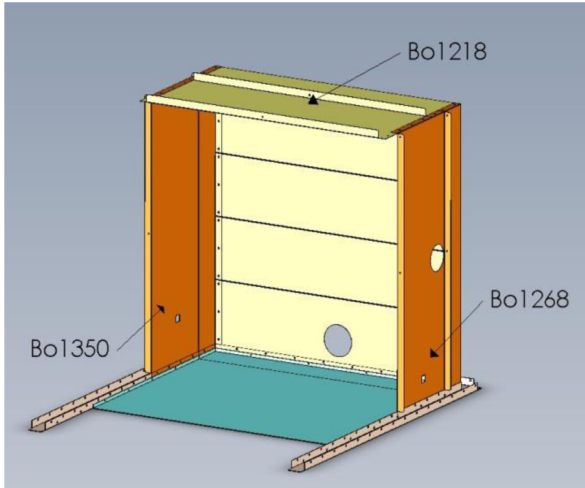

Figure 4
4) Start installing the side and top panels. Start with panels BO-1350, BO-1218 and BO-1268. *See figure 4.*